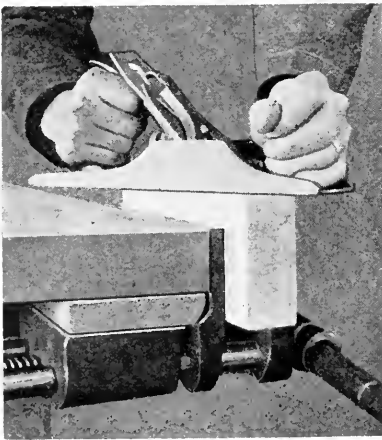

Fig. 2. Edge Planing.
- 2—Plane one adjoining edge at right angles to surface "I" and mark "II." Call this edge the working edge. Fig. 2.